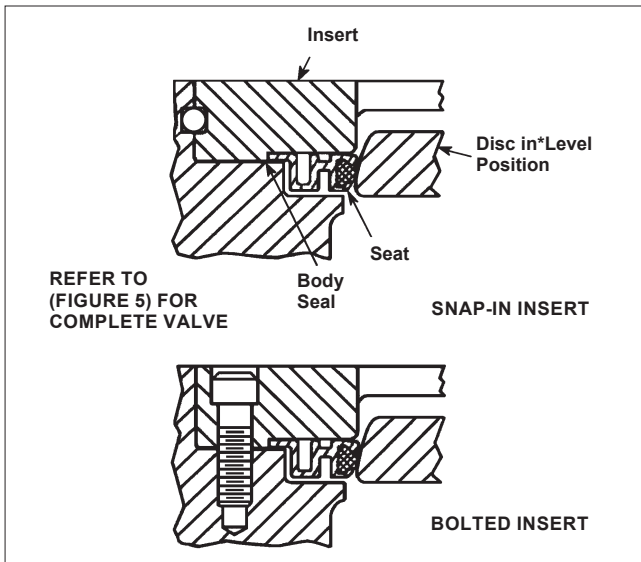

Figure 9.
10. Verify that the disc is in the level position. Install new seat and insert (See Figure 9 & 10). For bolted inserts, install the insert screws, and tighten them uniformly. Torque values are given in (Table 1). Whenever possible, open the valve and retorquing the insert screws per (Table 1). Take care not to damage the sealing edge of the disc. Close the valve. For snap-in inserts, place the retaining spring into the groove in the